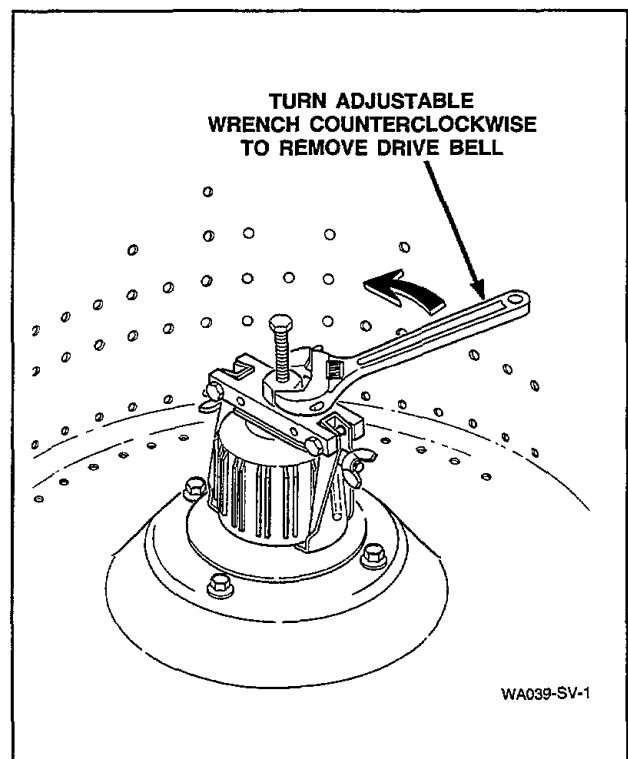

Figure 20
- i. Use an adjustable wrench and turn the large nut on the tool **COUNTERCLOCKWISE** to pull the drive bell from the transmission shaft, *Figure 20*.